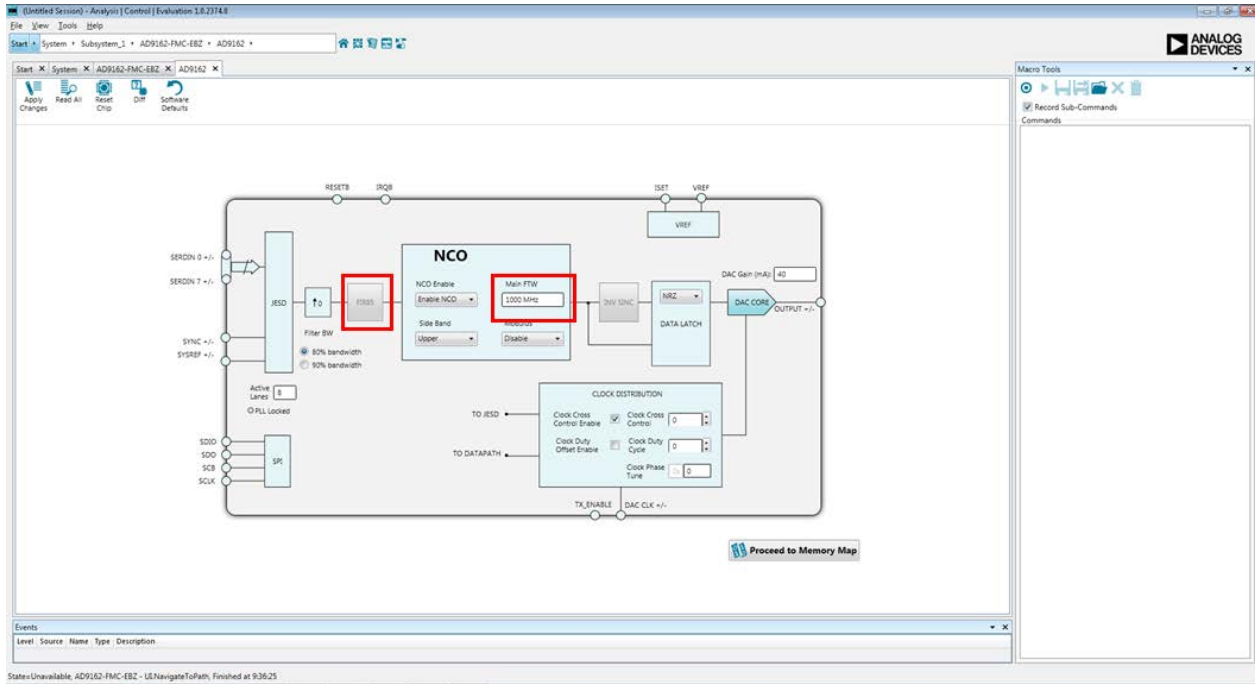

Figure 8. AD9161, AD9162, AD9163, or AD9164 Device View in ACE
7. To avoid the start-up sequence each time, double click the **AD9162-FMC-EBZ** evaluation board icon to display the device view as shown in Figure 8. The device view is an interactive view of the AD9161, AD9162, AD9163, or AD9164 device that allows the user to configure more features of the device, including the NCO and the FIR85 enable, the DAC decode mode, and the clock input tuning parameters.